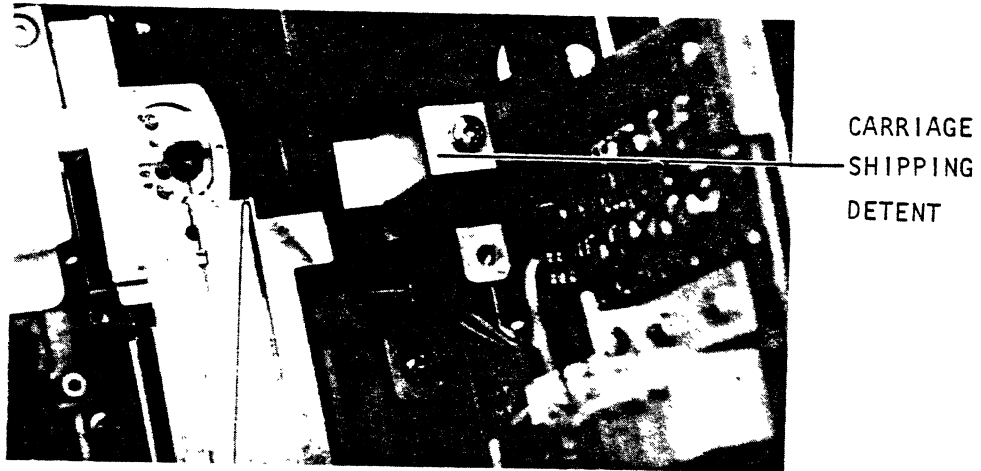

Figure 1
1. Extend the drive on its slides and remove the top cover. Remove the carriage shipping detent to allow carriage motion. The carriage shipping detent should be saved for future use in the event the equipment is relocated. See Figure 1.